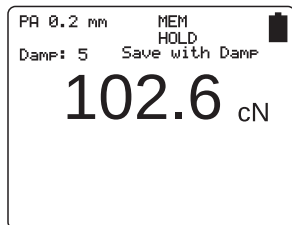

fig. 3.7a
- When pressing the  button the display will freeze (The display shows MEM, HOLD, Save with Damp, fig 3.7a).